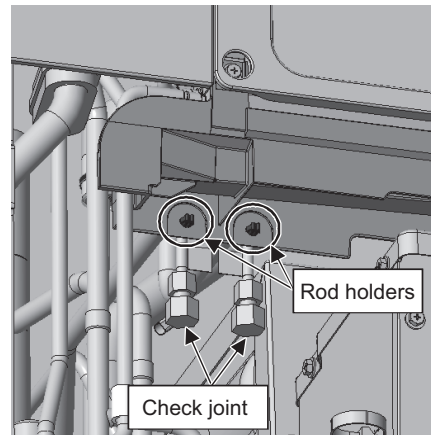

Figure 4
To remove the rest of the components from the pillar, unscrew the two screws indicated with Arrow (C) in Figure 4.
- (3) Remove the two rod holders holding the check joints in place, using a wrench. (See Figure 4.)